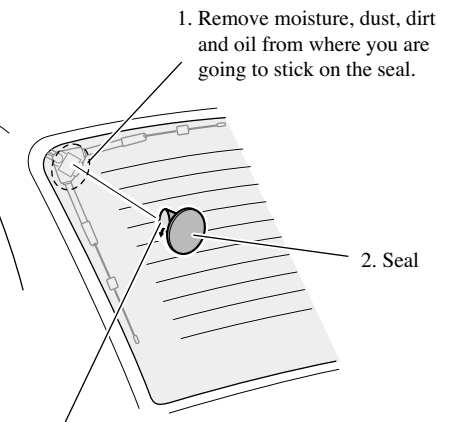

Fig. 12
6. Sticking the seal on the outside of a window. (Fig. 12)